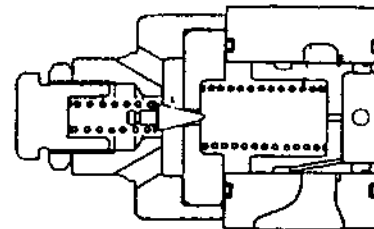

Fig. 2-50 Relief valve
When the load is excess during operation, the pressure of hydraulic system will exceed the adjusted pressure (14.0MPa) momentarily. At this point the relief valve (17) (See Fig. 2-50) is open and the oil returns to the hydraulic tank via relief valve (17) to protect the hydraulic system.